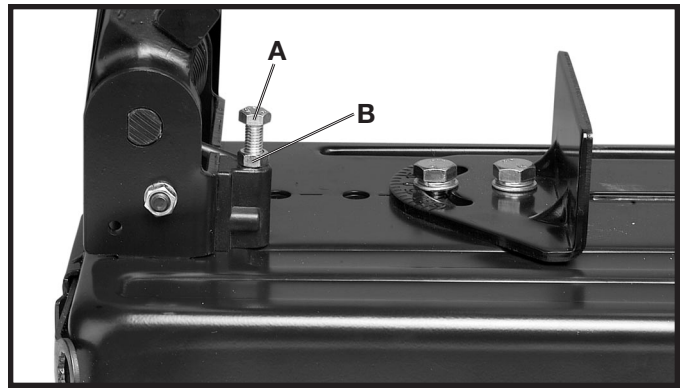
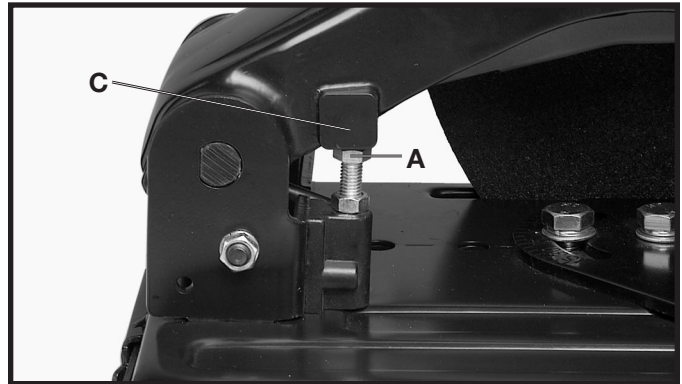

Fig. 12
Fig. 13
A stop screw (A) Fig. 12, is provided to limit the downward travel of the abrasive wheel. This adjustment is made by loosening lock nut (B) and turning stop screw (A) in or out as desired. Then tighten lock nut (B).
Fig. 13 illustrates edge of the arm casting (C) contacting stop screw (A) limiting the downward travel of the abrasive wheel. **NOTE:** As the abrasive wheel becomes smaller in diameter, because of wear, the downward travel of the wheel can be increased. When the blade is changed, the stop screw (A) Fig. 12 will need to be re-adjusted to limit the downward travel of the wheel.